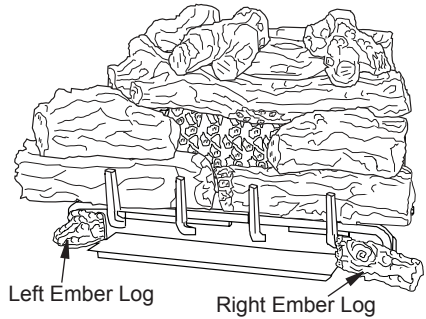

Figure 37 - Installing Ember Logs
10. Place the left and right ember logs as shown in Figure 37. Do not place the logs on the ember bed pan they are intended to cover the sheet metal on the front of the base assembly.